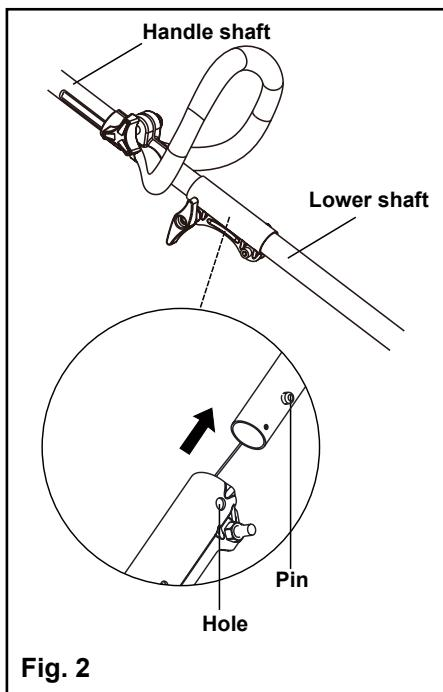

Fig. 2
- Align the pin on the handle shaft and the hole on the lower shaft. (Fig. 2)